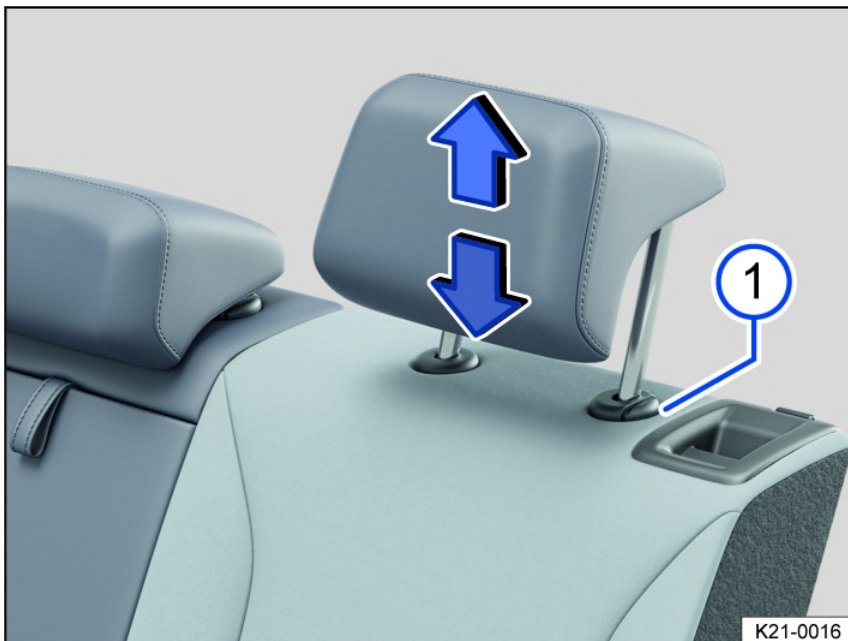

Fig. 83 General example: removing the head restraint on the second-row seats.
3. Pull the head restraint all the way out while pressing the *fig. 83* button.
3. Push the head restraint downward while pressing the *fig. 83* button.